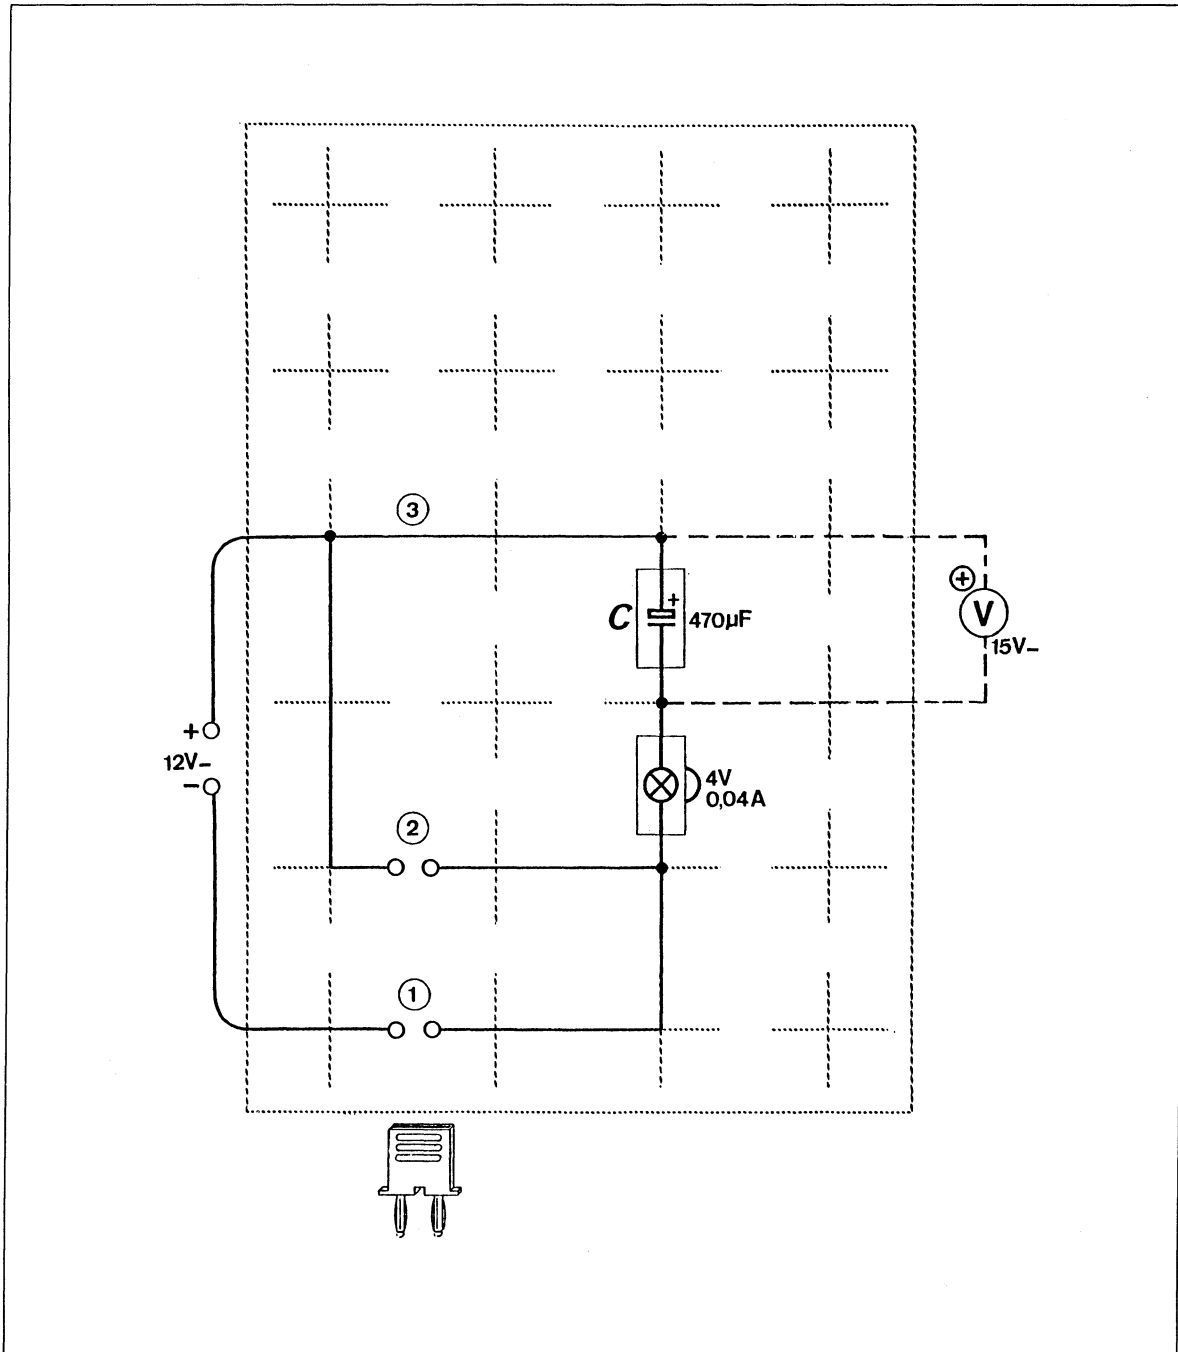

Fig. 1 Experiment setup: capacitor in a DC circuit
- Set up the circuit as shown in Fig. 1. Do not connect the voltmeter yet. Set the power supply to voltage level 0.